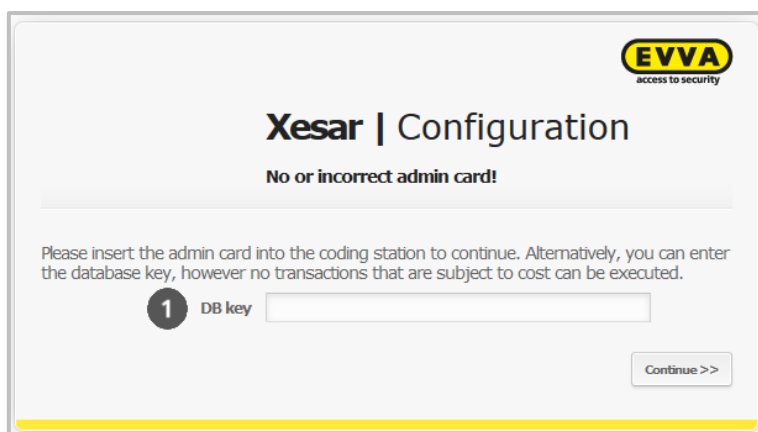

Figure 46: DB key
If you have not connected your Xesar coding station, your Admin Card is faulty or not available, the system shows the "Xesar | Configuration" (Figure 46: DB key) application window allowing you to enter the DB key to continue. Note that you will be unable to grant authorisations to persons/identification media without an Admin Card.
The DB key ❶ (Figure 46: DB key) is the automatically generated code included with your access data (see **Backing up access data** and DB key).